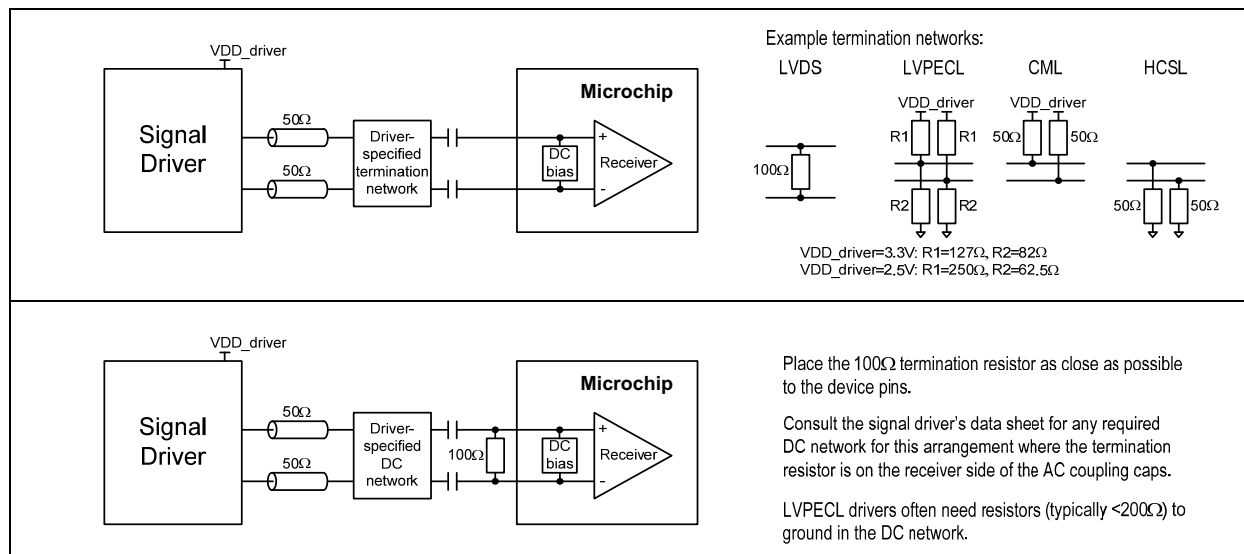

FIGURE 7-2: Example External Components for Differential Input Signals.
- 3: Differential signals.** The differential inputs can easily be interfaced to neighboring ICs driving LVDS, LVPECL, CML, HCSL, HSTL, or other differential signal formats using a few external passive components. In general, Microchip recommends terminating the signal with the termination/load recommended in the neighboring component's data sheet and then AC-coupling the signal into the ICxP/ICxN pins. See Figure 7-2 for details. To connect a differential signal to IC3, AC-couple one side of the signal to IC3P and AC-couple the other side to VSS. For DC-coupling, treat the input as 1.8V CML.